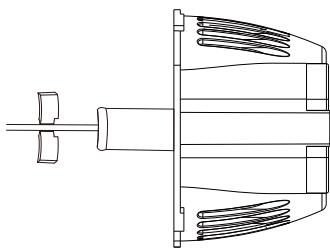

Fig. 3
- 3.Install back the pump,first, put the impeller into the pump,like the Fig.3